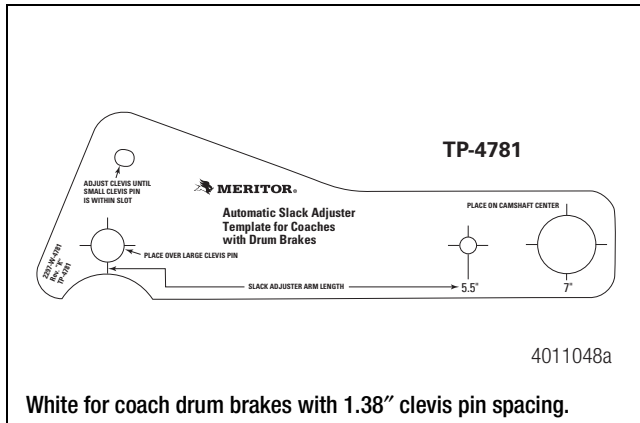
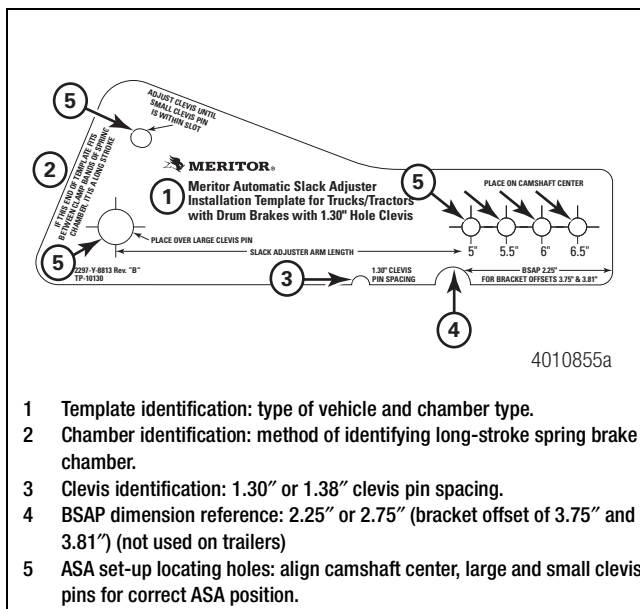

Figure 7.18
Figure 7.19
1. Use the correct Meritor automatic slack adjuster template to measure the length of the slack adjuster. Figure 7.14, Figure 7.15, Figure 7.16, Figure 7.17, Figure 7.18 and Figure 7.19. The marks by the holes in the small end of the template indicate the length of the slack adjuster. Refer to Table F.